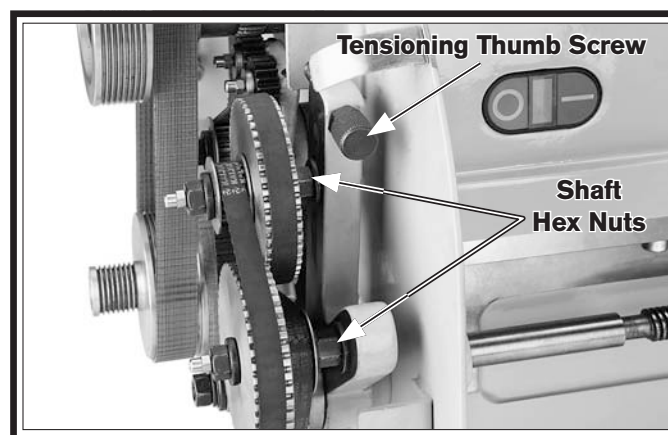

Figure 59. Pulley shaft hex nuts and tensioning thumb screw.
3. Loosen the pulley shaft hex nuts and tensioning thumb screw shown in **Figure 59**.